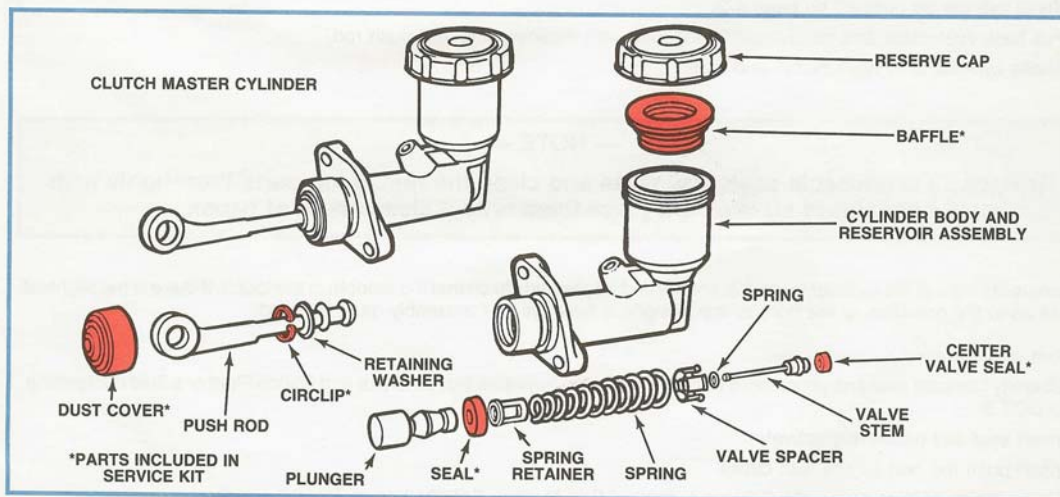

Figure 4-1, Clutch Master Cylinder.
See Figure 4-1 ...
3. Position spring washer on valve stem so that it flares away from valve stem shoulder (see Figure 4-1) follow with valve spacer, legs first, and spring.